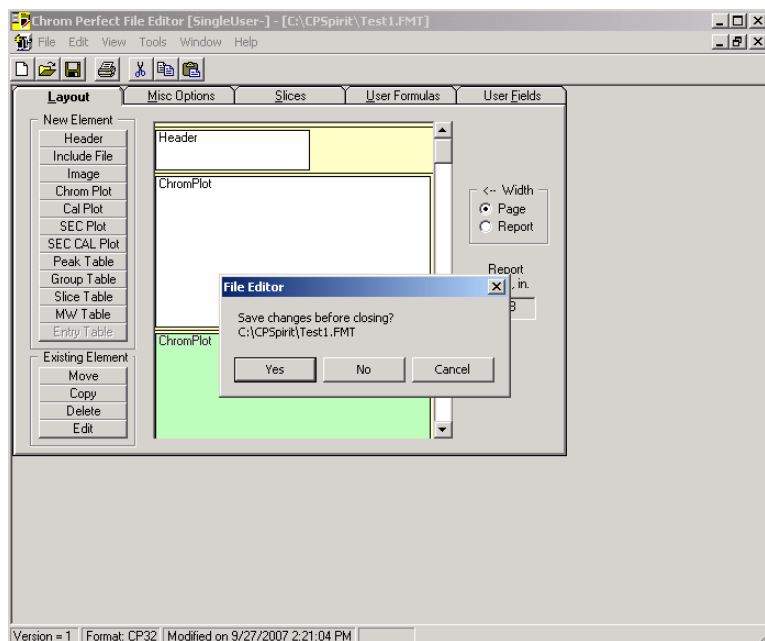

Figure A-31: Saving File Editor Changes
9. As shown in Figure A-31, click **Yes** button to save the change into Test1.FMT.